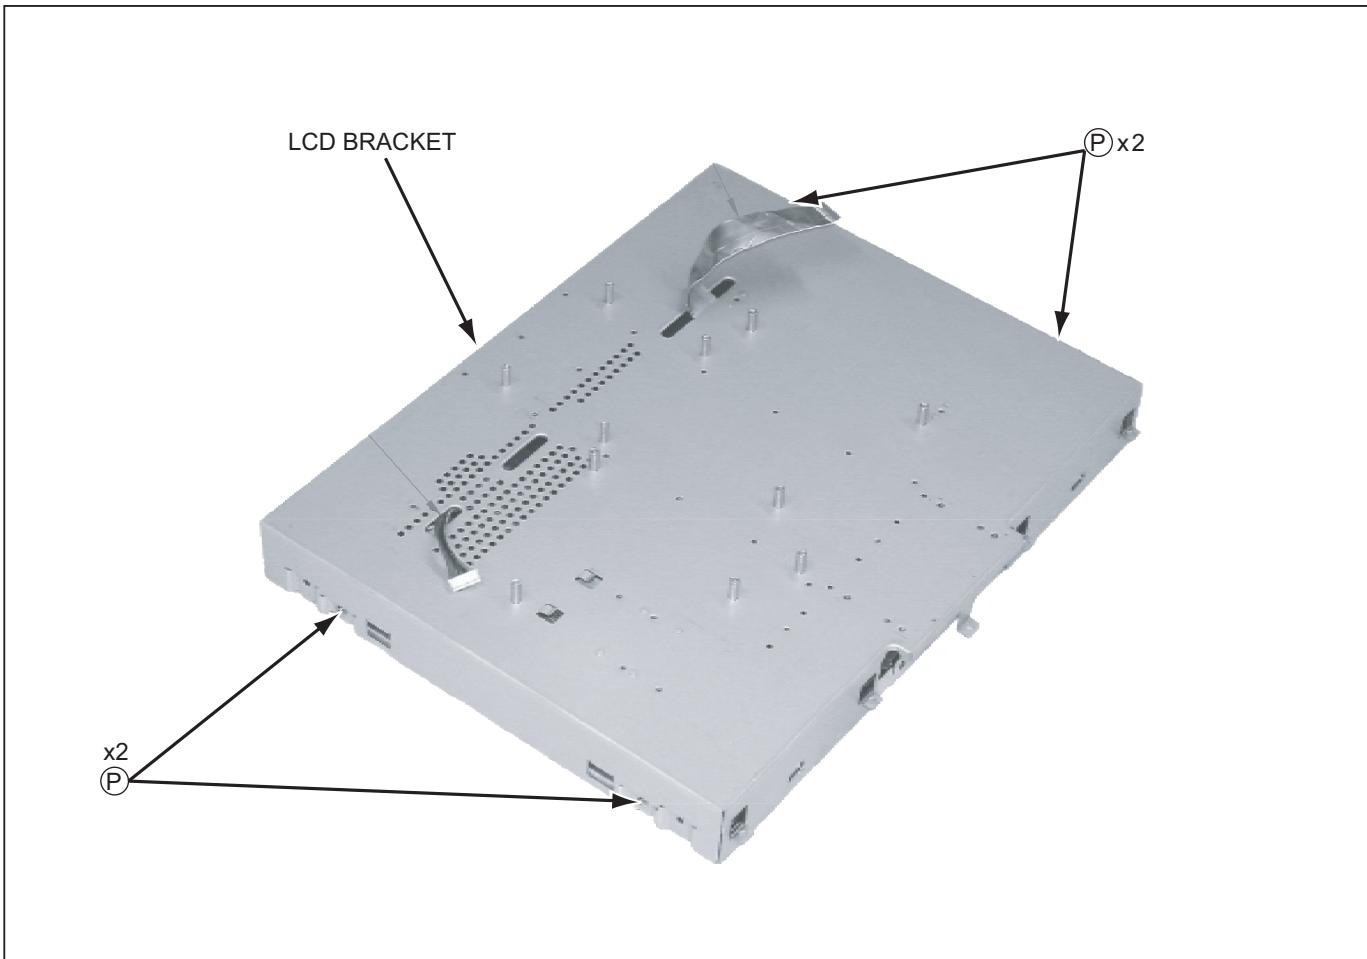

Fig.8
- (3) Remove the 4 screws [P] and remove LCD BRACKET. (Fig.8)